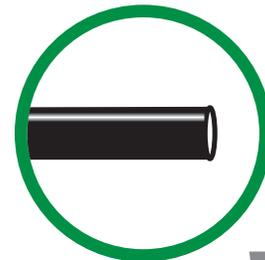

fig. 29
- a. Check the air line connection by deflating the spring and removing the line by pulling the collar against the fitting and pulling firmly on the air line. Trim 1" off the end of the air line. Be sure the cut is clean and square (see Fig. 29). Reinsert the air line into the push-to-connect fitting.
2. If the preceding steps have not resolved the problem, call Air Lift customer service at (800) 248-0892.